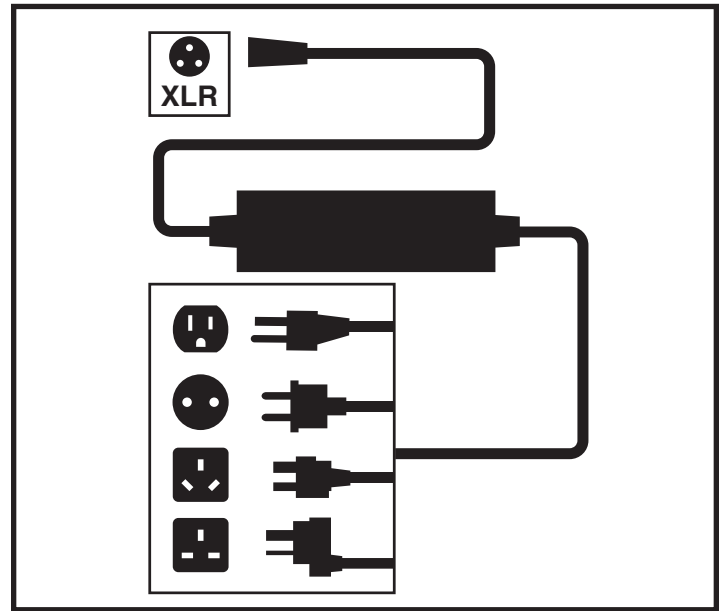

Figure 22. Battery Charging
3. Plug the off-board charger into the off-board charger/programming socket on the controller. See figure 22.